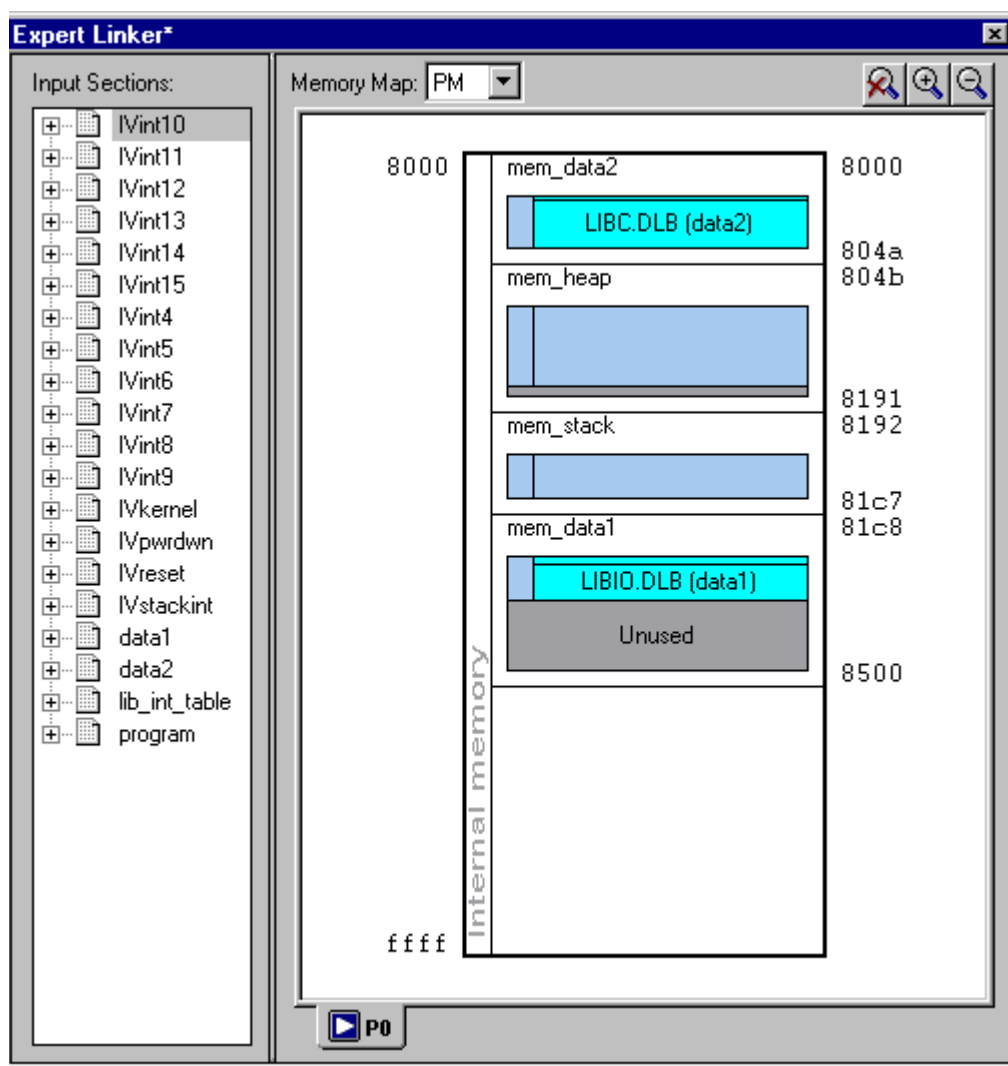

Figure 3-22. Memory Map Pane in Post-Link View
- To enable pre-link view from the **Memory Map** pane, right-click and choose **View and Mapping Strategy (Pre-Link)**. Figure 3-22 on page 3-30 illustrates memory map before linking.